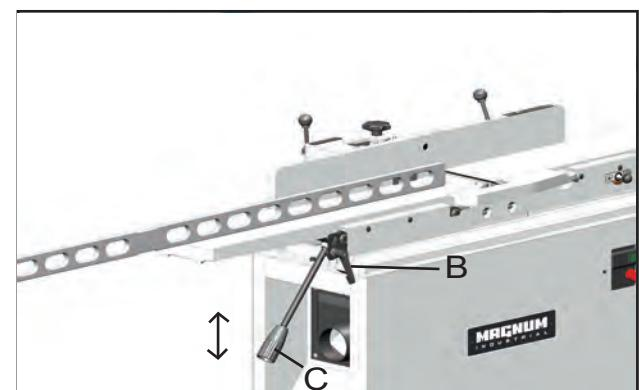

Fig. 7
5. Loosen the Lock Handle (B, Fig. 7)
6. Push up or down the height adjustment handle (C, Fig. 7) to adjust the outfeed table height so that the knife tip barely touches the straight-edge.
7. Re-tighten the Lock Handle (B) to secure the outfeed table in position.